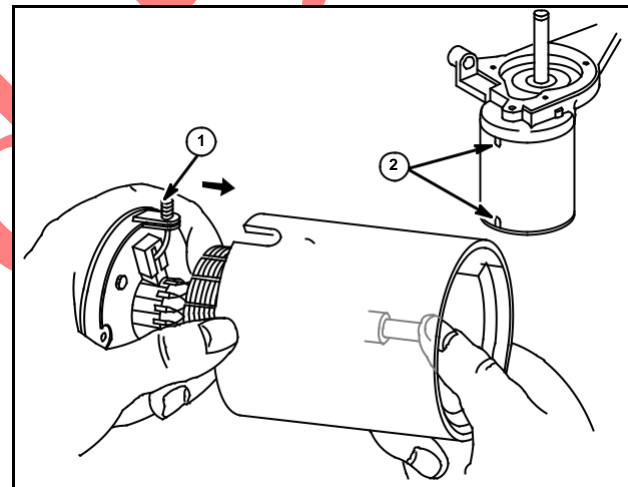

Fig. 38
4. Support armature shaft and slide it slowly into starter housing, as shown in Fig. 38.
5. Insert plastic insulator terminal (1) (System 3 , 4) into starter housing.
7. Notches in end cap, housing and end head must be aligned (2), Fig. 38.